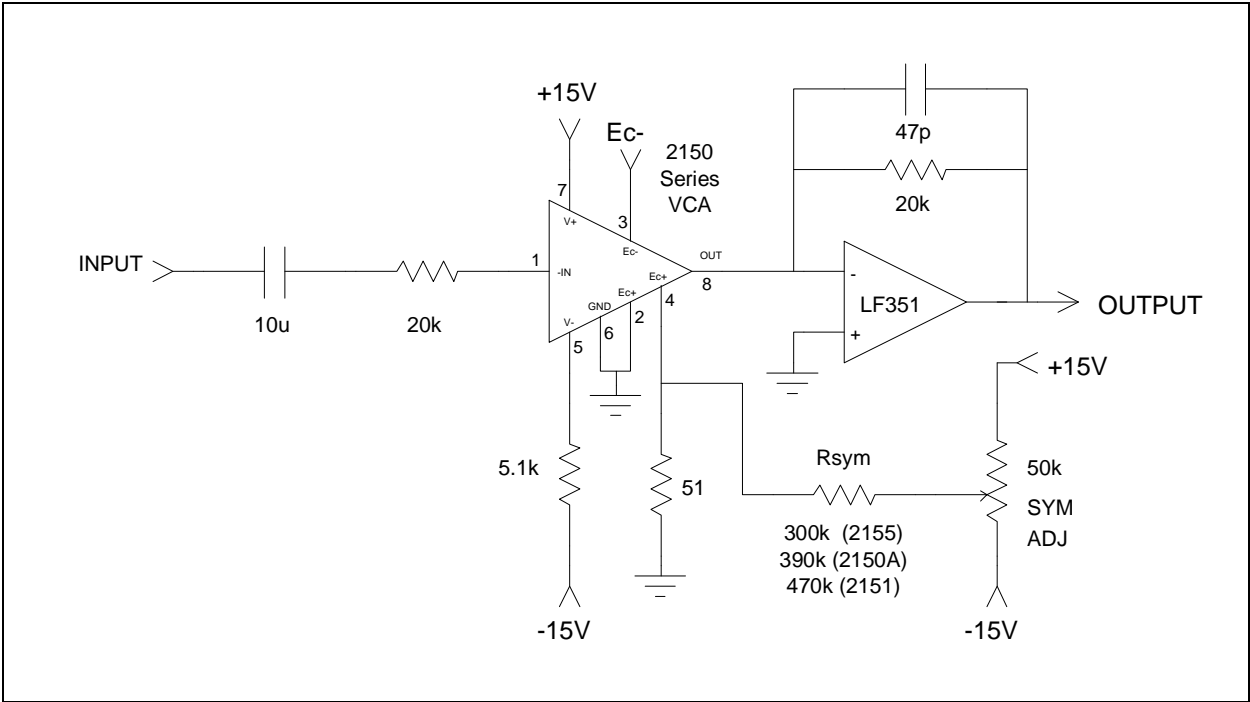
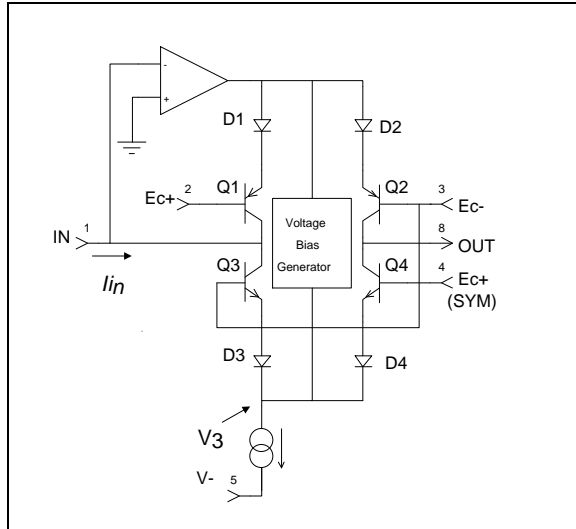
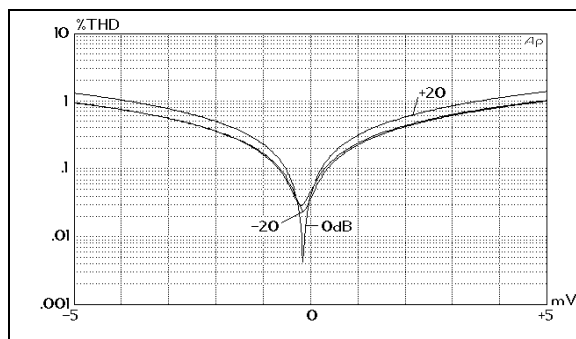
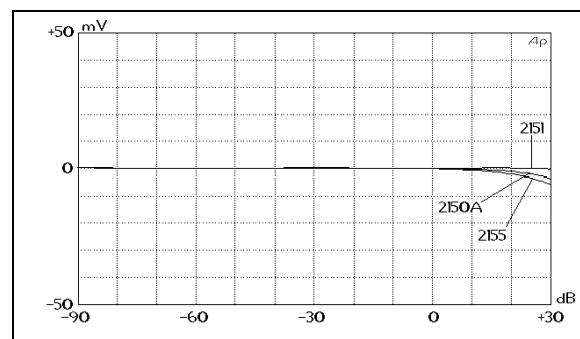

Figure 3. Typical Application Circuit
Figure 6. Simplified Internal Circuit Diagram
Figure 8. Typical THD Versus Symmetry Voltage
Figure 9. DC Offset Vs. Gain, After Symmetry Adjustment
2. Unless otherwise noted, $T_A = 25^\circ\text{C}$, $V_{CC} = +15\text{V}$, $V_{EE} = -15\text{V}$. Test circuit is as shown in Figure 3. SYMADJ is adjusted for minimum THD @ $V_{in} = 1\text{ V}$, 1 kHz, 0 dB gain.
Figure 6 presents a considerably simplified internal circuit diagram of the IC. The ac input signal current flows in pin 1, the input pin. The internal op amp works to maintain pin 1 at a virtual ground potential by driving the emitters of Q1 and (through the *Voltage Bias Generator*) Q3. For positive input currents (I_{in} defined as flowing into pin 1), the op amp drives the emitter of Q1 negative, turning off its collector current, while simultaneously driving the emitter of Q3 nega-
In typical applications (see Figure 3, Page 3), pin 4 is connected to a voltage source at ground or nearly ground potential. Pin 8 is connected to a virtual ground (usually the inverting input of an op amp with negative feedback around it). With pin 4 near ground, and pin 8 at virtual ground, the voltage at the cathodes of D3 and D4 will cause an exponentially-related current to flow in D4 and Q4, and out via pin 8. A similar equation governs this behavior:
A quiescent bias current in the core transistors is established by the *Voltage Bias Generator* shown in Figure 6. This current acts like crossover bias in the output stage of a complementary class AB power amplifier, smoothing the transition between turning on the top (PNP) pair and the bottom (NPN) pair of transistors in the core. This lowers distortion greatly at some cost to noise performance, as the current noise of the core transistors (which run at approximately 20 μ A) is the dominant noise source in the 2150 Series VCAs.
The monolithic construction of the devices assures relatively good matching between the paired transistors, but even small V_{BE} mismatches can cause unacceptable asymmetries in the output. For this reason, the bases of Q1 and Q4 are brought out separately to pin 2 and pin 4, respectively. This allows a small static voltage differential to be applied to the two bases. The applied voltage must be set to equal the sum of the V_{BE} mismatches around the core (*which varies from sample to sample*). Figure 3 (Page 3) includes a typical circuit to apply this symmetry voltage. R_{SYM} controls primarily even-order harmonic distortion, and is usually adjusted for minimum THD at the output. Figure 8 plots THD vs. the voltage between pins 2 and 4 (the two E_{C+} ports) for various gain settings of a typical part.
vent such dc terms, ac input coupling is strongly recommended. A plot of typical output offset voltage versus gain for the circuit of Figure 3 is shown in Figure 9. (The LF351's offset was adjusted to 0 V for this plot.)
The size of the current source at the bottom of the core (Figure 6, Page 4) is programmed externally via I_{SET} , which is normally determined by a resistor from pin 5 to V_- . The voltage at pin 5 is typically -2.7 V. I_{SET} divides into two portions: approximately 400 μA is used for internal biasing, and the rest is available for the current source at the bottom of the core. I_{SET} should therefore be 400 μA larger than the total of the peak input and output signal currents.
The input pin (pin 1) is a virtual ground with negative feedback provided internally (see Figure 6, Page 4). The input resistor (shown as 20 k Ω in Figure 3, Page 3) should be scaled to convert the available ac input voltage to a current within the linear range of the device. (Peak input currents should be kept under 1 mA for best distortion performance.) An additional consideration is stability: the internal op amp is intended for operation with source impedances of less than 30 k Ω at high frequencies. For most audio applications, this will present no problem.
The output pin (pin 8) is intended to be connected to a virtual ground node, so that current flowing in it may be converted to a voltage (see Figures 3, 14, & 15). Choose the external op amp for good audio performance. The feedback resistor should be chosen based on the desired current-to-voltage conversion constant. Since the input resistor determines the voltage-to-current conversion at the input, the familiar ratio of R_f/R_i for an inverting op amp will determine the overall voltage gain when the VCA IC is set for 0 dB current gain. Since the VCA performs best at settings near unity gain, use the input and feedback resistors to provide design-center gain or loss, if necessary.
symmetry voltage ($<\pm 2.5$ mV) to correct for V_{BE} mismatches within the VCA IC. For this purpose, the 2150 series devices were designed for optimum performance with an impedance of approximately 50Ω at pin 4. A trim pot is used to adjust the voltage between pin 4 and pin 2 as shown in Figure 3, Page 3. For supply voltages other than shown, scale R_{SYM} to provide the required adjustment range.